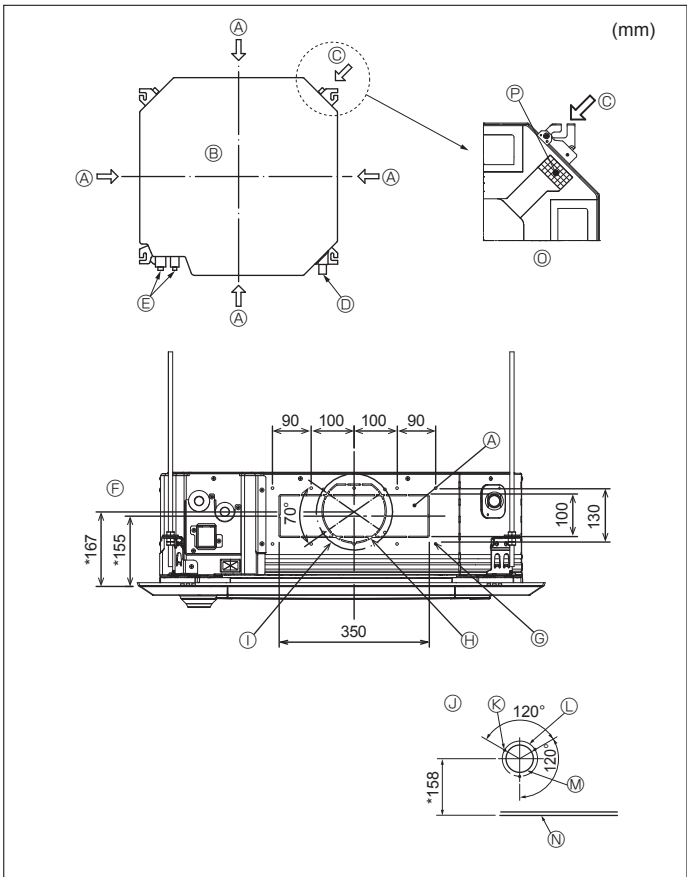

Fig. 2-3
2.3. Branch duct hole and fresh air intake hole (Fig. 2-3)
- At the time of installation, use the duct holes (cut out) located at the positions shown in Fig. 2-3, as and when required.